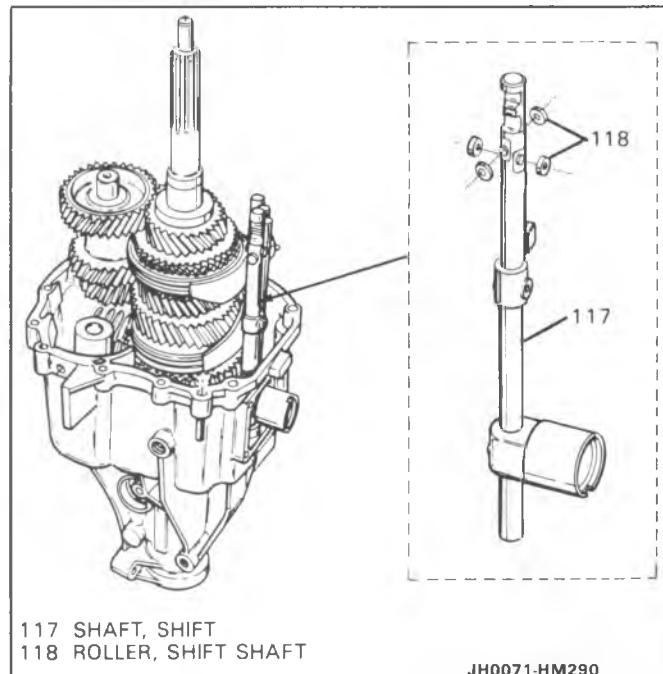

Figure 87 Rollers Install
- Bolts (236) to 8.5 N·m (7 Lb. Ft.).
- Four rollers (118) (Figure 87).